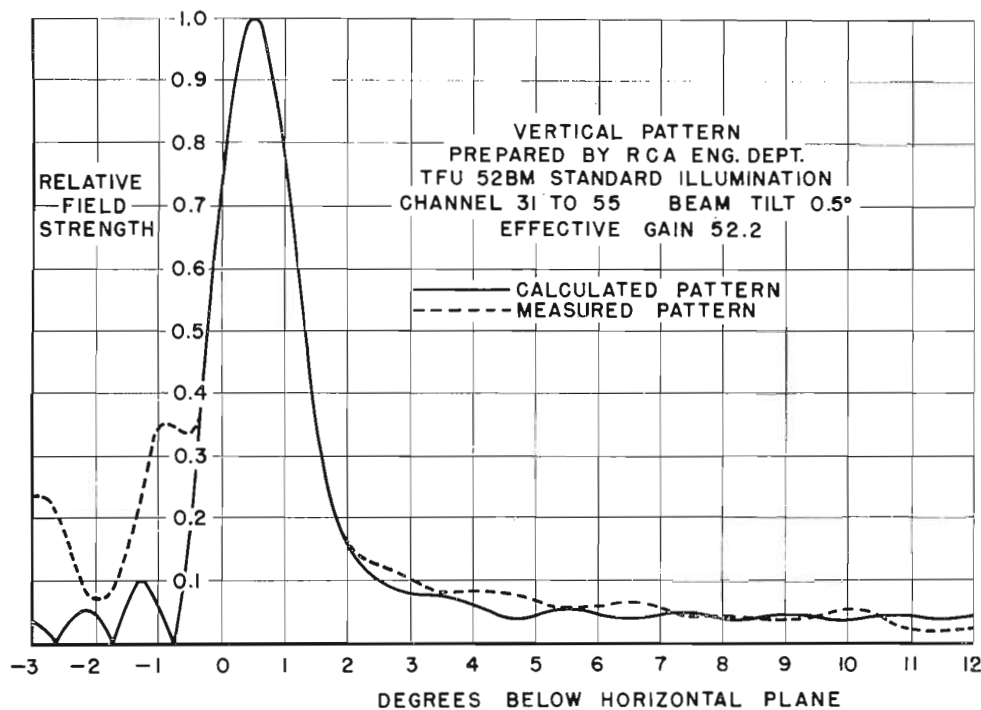

Fig. 4. The TFU-52BM antenna's calculated and measured patterns are shown here.
4. Variation of both amplitude and phase in a continuous fashion over the aperture. This is the method used in the RCA ultra-gain series of UHF antennas5 having a nominal gain of 50 (TFU-46BL, TFU-52BM). This method not only provides a vertical pattern which will give a high uniform field strength over average terrain, but also suppresses radiation above the horizontal which serves no useful purpose. The energy thus conserved increases the aperture efficiency of the antenna. Figure 4 is a calculated and measured pattern of one of the ultra-gain antennas.
As can be seen from Fig. 4, the pattern produced by the antenna is a very important factor in providing good coverage.
FIG. 4. Warren Happel, University of Michigan television engineer, inserts slides in TP-3 Projector. Also visible is the TK-26 Camera, TP-6 Projector and TP-15 Multiplexer.